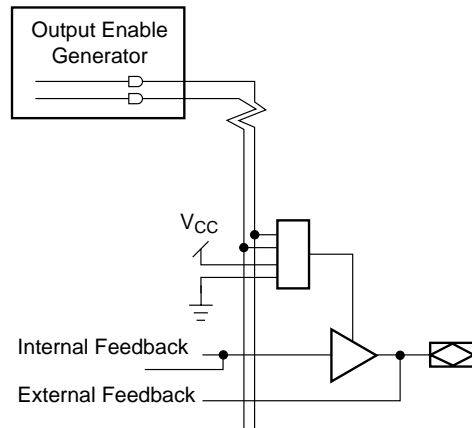

Figure 6. Output Enable Generator and I/O Cell
There is one output enable (OE) generator per PAL block that generates two product-term output enables. Each I/O cell is simply an output buffer. Each I/O cell within the PAL block can choose to be permanently enabled, permanently disabled, or choose one of the two product-term output enables per PAL block (Figure 6).